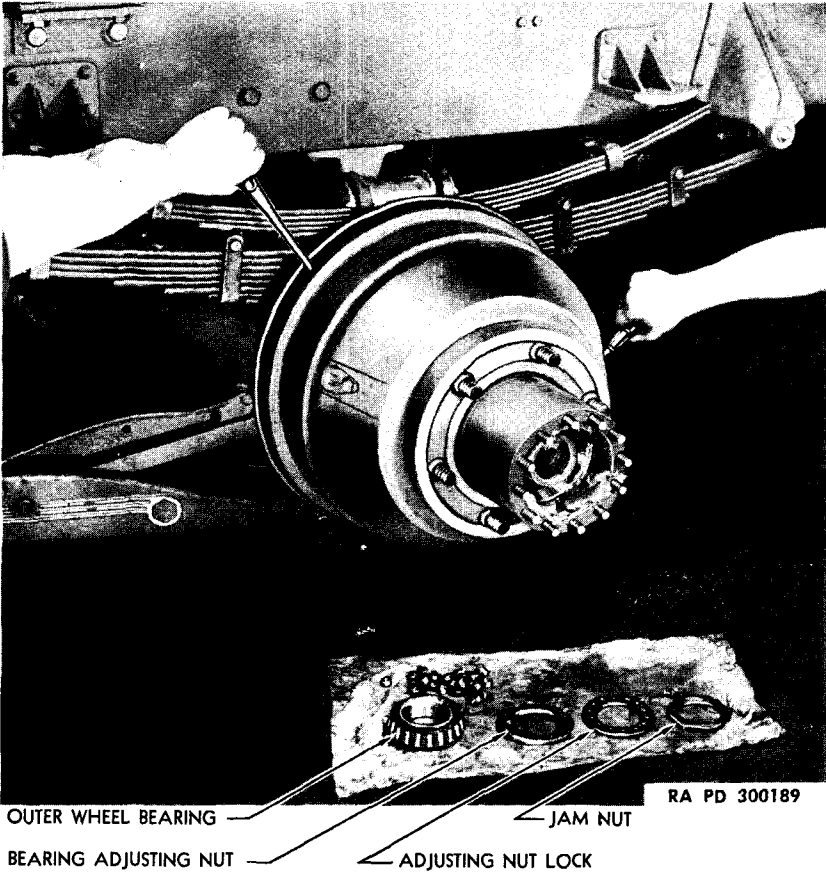

Figure 100—Removing Rear Hub and Drum Assembly
- c. **Remove Hub and Drum.** Wipe grease from axle housing end with a clean rag. Remove jam nut, lock ring, and bearing adjusting nut (fig. 100). Remove hub and drum assembly, pulling outer bearing at the same time. If necessary, tap outer end of axle housing to loosen